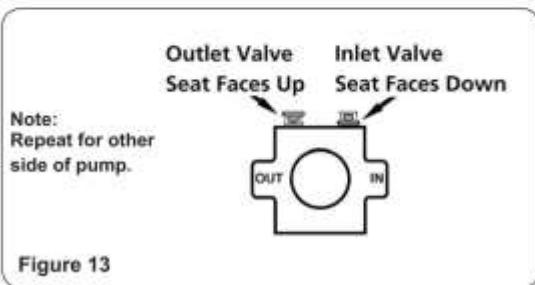

Figure 13
12. Insert inlet and outlet valves with o-ring seals (See Fig. 13). These are identical, but in reverse positions.